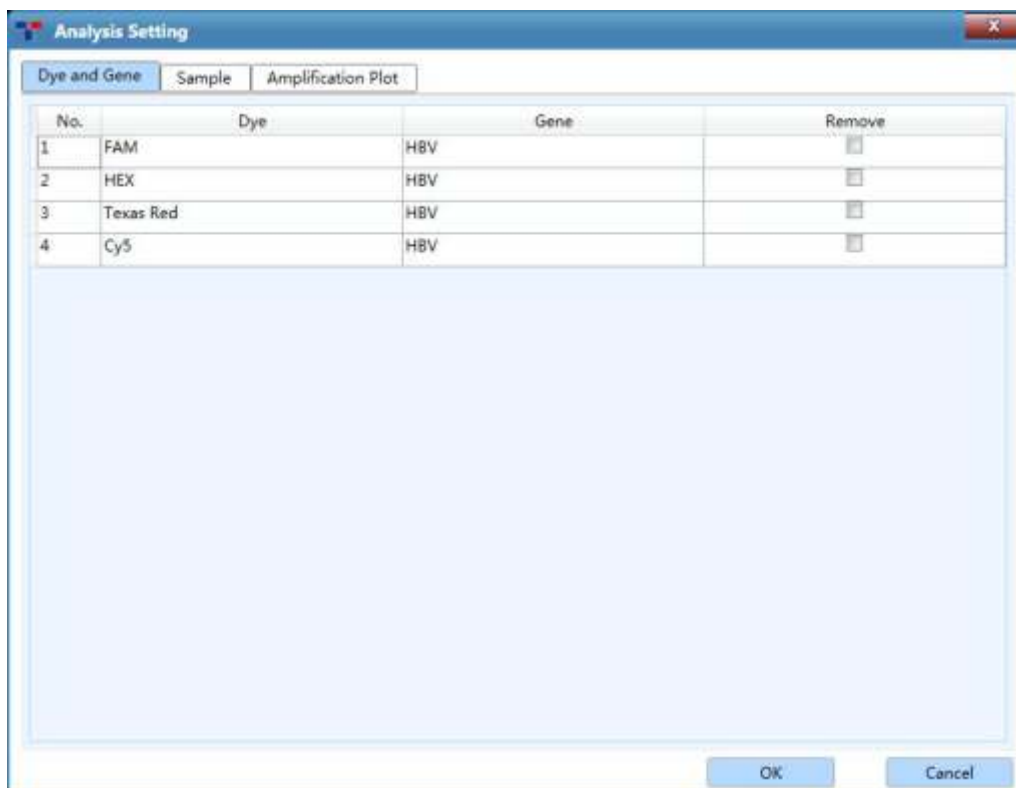

Figure D-10.1 Abs Quant Analysis Setting interface - Dye and Gene tab
- ▶ **Dye and Gene** tab: display the settings of **Dye** and its marked **Gene** of the current experiment, as shown in figure D-10.1.